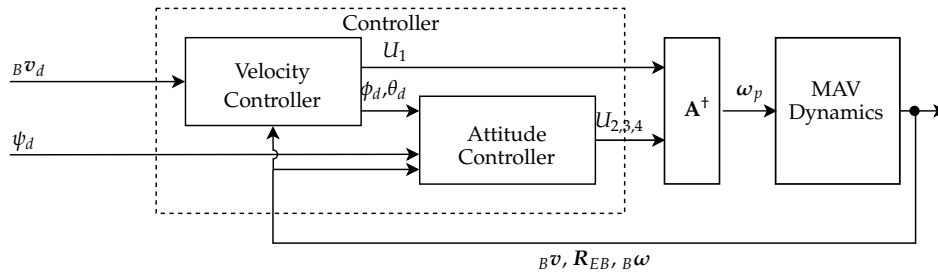

Figure 2: Control structure.
In this exercise, attitude and velocity controllers will be designed and evaluated using MATLAB and SIMULINK. The control structure is depicted in Figure 2. The outer loop controller (velocity controller) generates commands to the inner loop controller (attitude controller). The commands (total thrust  $U_1$  and moments  $U_2, \dots, U_4$ ) are converted into rotor speed  $\omega_{p,i}$  by inverting the expression in Equation (4). Note that matrix  $\mathbf{A}$  has dimensionality  $4 \times 6$ . Therefore, the pseudo-inverse is used to solve Equation (4) for  $\omega_{p,1\dots 6}$ . The pseudo-inverse is given by  $\mathbf{A}^+ = \mathbf{A}^T (\mathbf{A}\mathbf{A}^T)^{-1}$ .